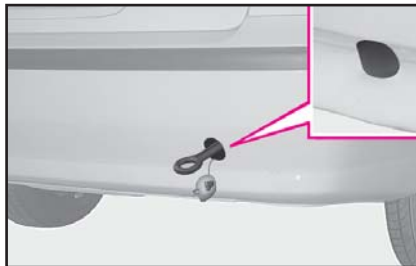

fig. 43
2) Remove the cover from the front bumper (fig. 44a) or from the rear bumper (fig. 43) by lever with a screwdriver in the point shown by the arrow.
3) Fasten the ring on the threaded pin (rear, fig. 43, or front fig. 44b).